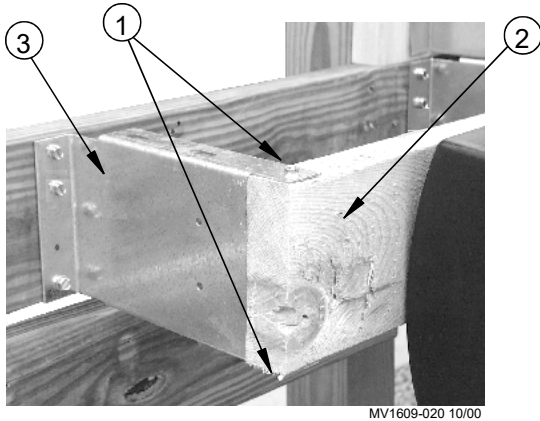

Figure 7. Bottom Bracket Connection
**Important!** Put lag bolt in the top and the bottom of the Bottom Bracket, as shown in Figure 7.
5. Install trough mounting 2 x 6's the full length of system using Lag Screws provided, shown in **Figure 7**. Use 2X Connecting Brackets (**Item 1, Figure 8**) to join the 2 x 6s together.